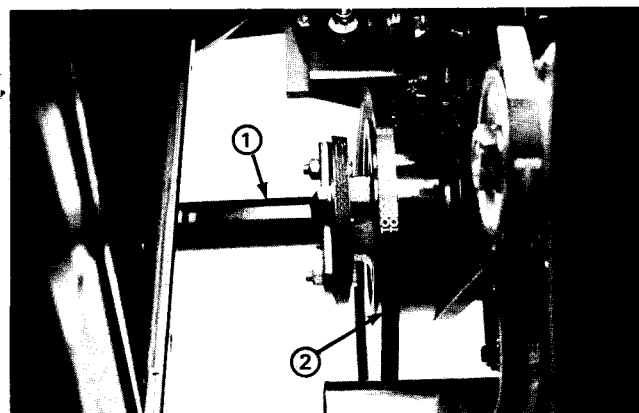

Figure 38
3. Remove two capscrews holding the transmission drive shaft coupler to the engine crankshaft pulley (Fig. 38). Do not remove the drive shaft from the transmission.